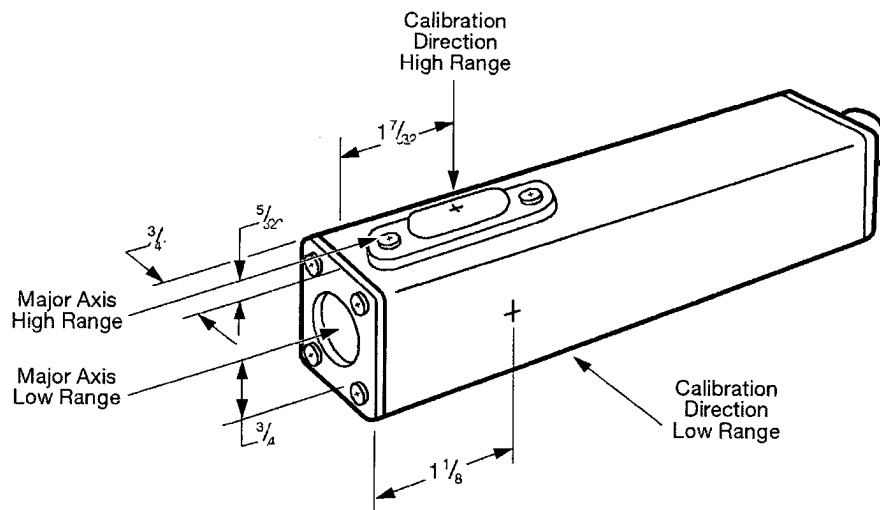

Figure 3 GP100 Series Detector Tube Location and Calibration Geometry
2. Place the detector in a known gamma low range radiation field with the major axis of the detector perpendicular to the beam. Figure 3 on page 8 for detector tube location and calibration geometry.
4. Place the detector in a known gamma high range radiation field with the major axis of the detector perpendicular to the beam. See Figure 3 on page 8 for detector tube location and calibration geometry.